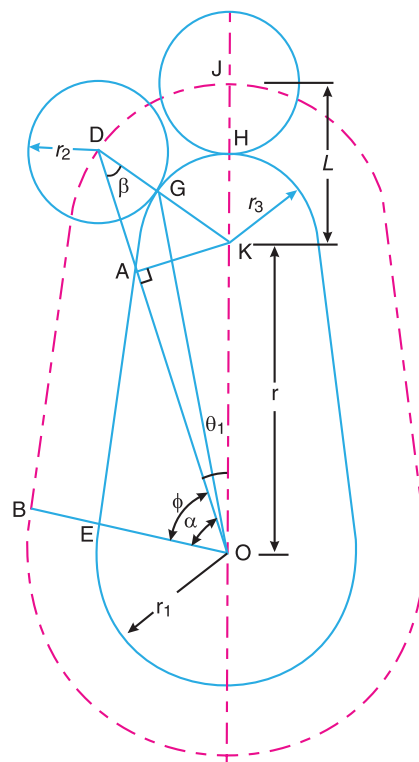

Fig. 20.41. Tangent cam with reciprocating roller follower having contact with the nose.
2. When the roller has contact with the nose. A roller having contact with the circular nose at G is shown in Fig 20.41. The centre of roller lies at D on the pitch curve. The displacement is usually measured from the top position of the roller, *i.e.* when the roller has contact at the apex of the nose (point H) and the centre of roller lies at J on the pitch curve.
4. From Fig 20.41, we see that the distances OK and KD remains constant for all positions of the roller when it moves along the circular nose. In other words, a tangent cam operating a roller follower and having contact with the nose is equivalent to a slider crank mechanism (*i.e.* ODK) in which the roller is assumed equivalent to the slider D , crank OK and connecting rod DK . Therefore the velocity and acceleration of the roller follower may be obtained graphically as discussed in Chapters 7 and 8.